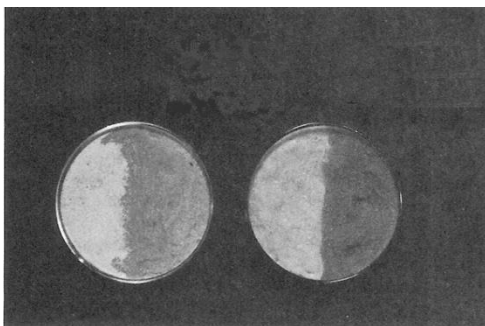

Figure 5 Left: Comparison of sand in air to sand in the mystery liquid. Right: Comparison of sand in water to sand in toluene
3. Students describe and record the different appearance between the dry and water-wetted sides. An example is shown in Figure 5.